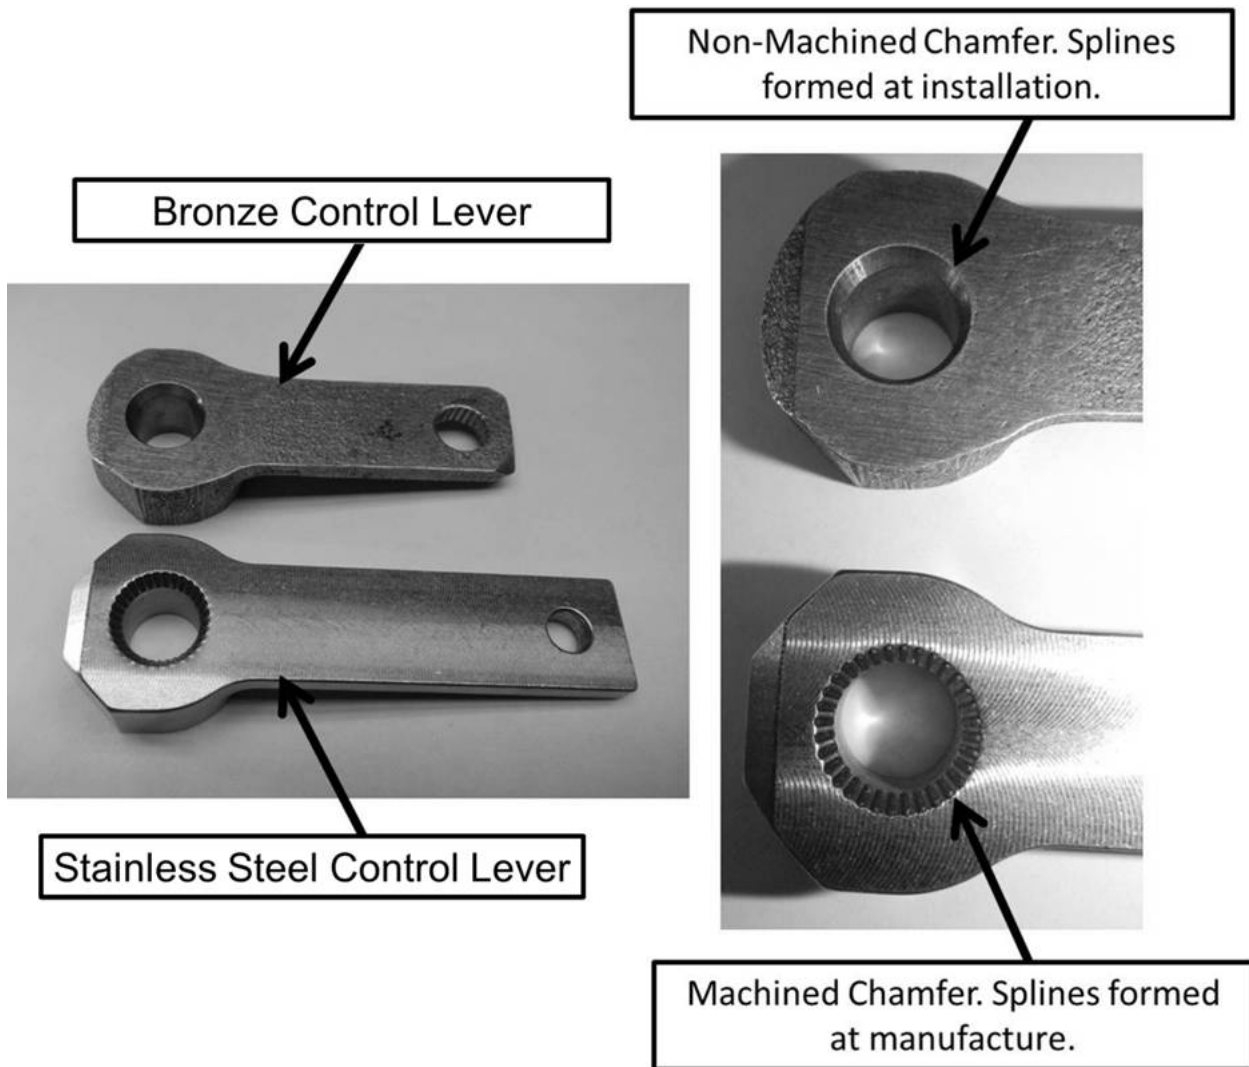

Figure 1. Throttle and Control Lever Identification
2. The replacement control levers are manufactured from stainless steel and feature a machined (splined) female chamfer, which interlocks with the machined splined male chamfer on the throttle and mixture control shafts (Refer to Figure 1 for control lever identification).